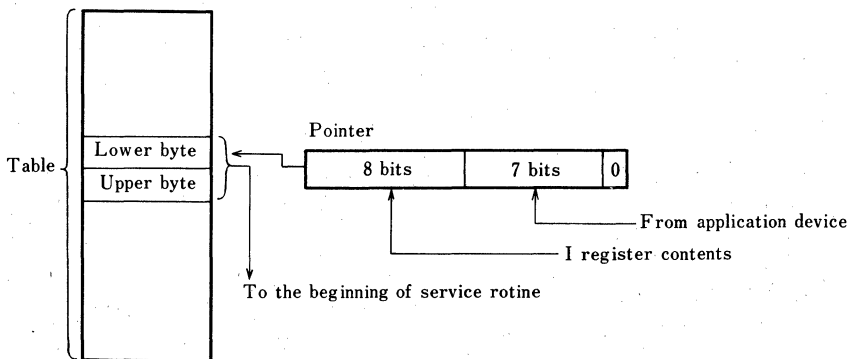

Fig. 1 Mode 2 interrupt diagram
**(1) Instruction Opcode Fetch**
The CPU places the contents of the Program Counter (PC) on the address bus at the start of the cycle (Fig. 1). Approximately one-half clock cycle later,  $\overline{\text{MREQ}}$  goes active. When active,  $\overline{\text{RD}}$  indicates that the memory data can be enabled onto the CPU data bus.